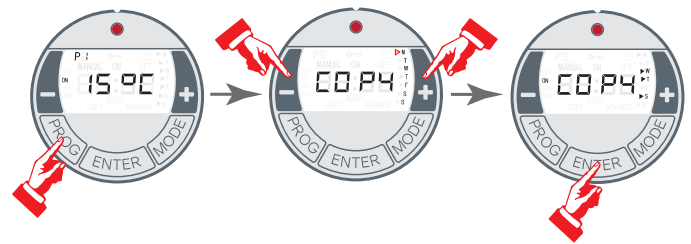

Fig. 9
- Days selected to copy the profile to will be indicated by a solid triangle, see Wednesday, Thursday and Saturday in Fig. 9.